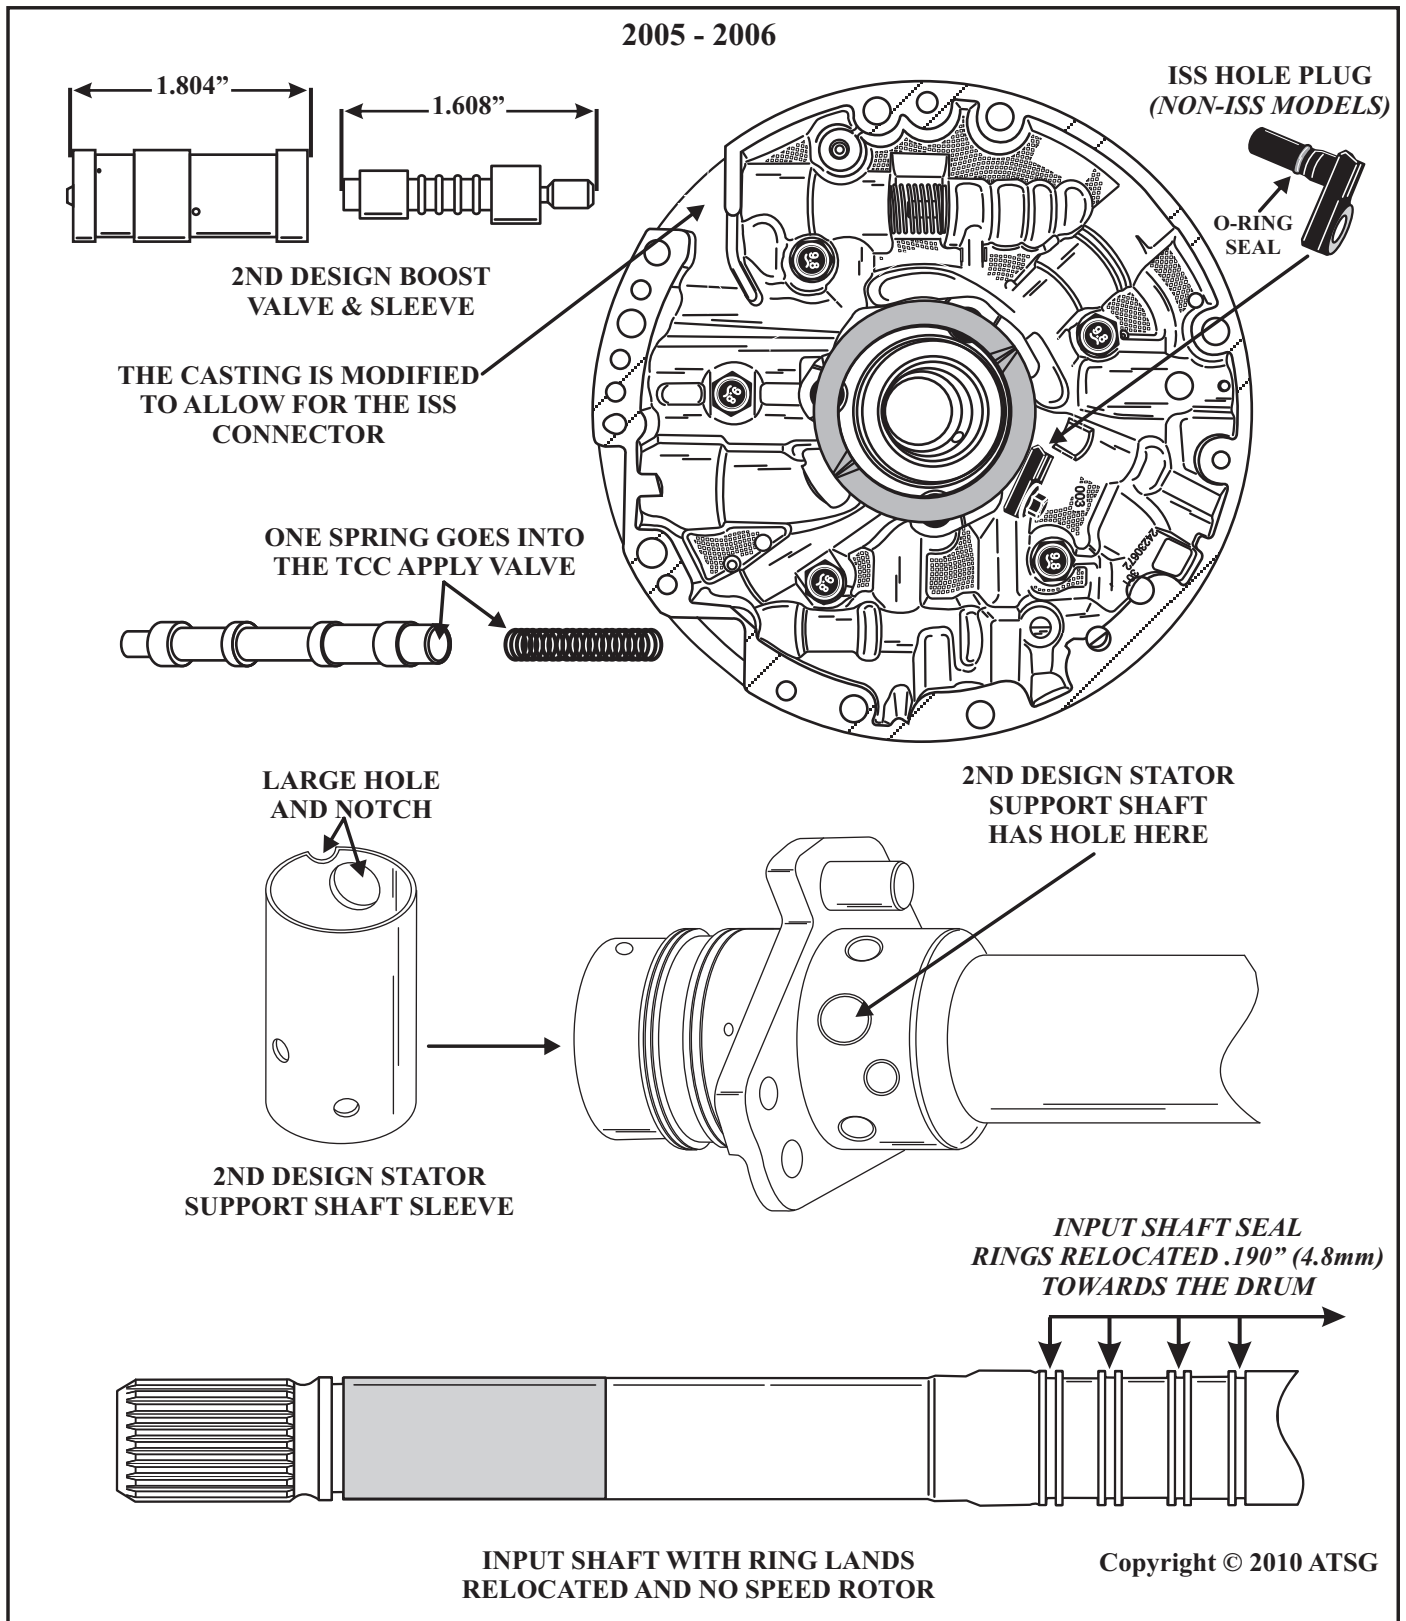

Figure 4
continued: (4) Late in 2005 and early in the 2006 model year, some pre ISS models may still not have the ISS mounting holes machined into the cover. This will be evident as a smooth un-machined surface without the ISS mounting holes. For non ISS models, an ISS hole plug will be used in place of the ISS assembly, (Refer to Figure 4).